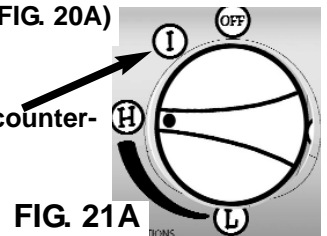

FIG. 21A
- 3) From the "OFF" position, push in and turn the Control Knob counterclockwise to "H". **(FIG. 21A)**